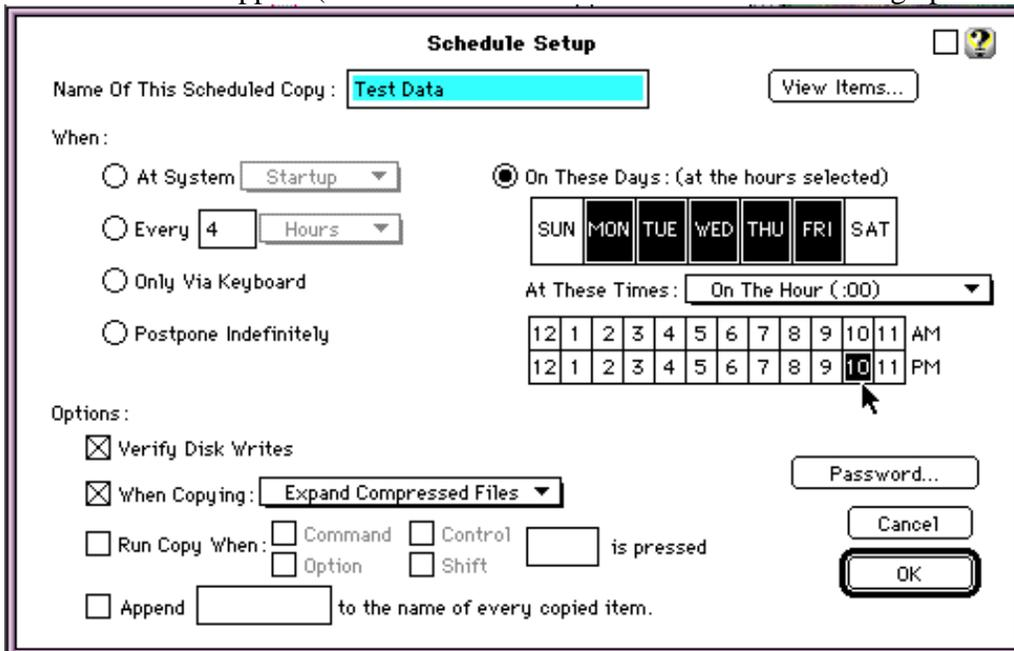

Figure 5
- Click the “**On These Days...**” button. Click on the days and hours to select a time to back-up. In Figure 5, I’ve selected 10PM Monday through Friday.
13. Finally, click on the **Password** button shown on Figure 5. The following dialogue box will show up:
You will need to type in your **CAE FILE SERVER** password so CopyDoubler can automatically log on to the server for you when it backs up. Press **OK**. You will be back to the dialogue box shown in Figure 5 - Press **OK**. You are done!!!
15. Select the “Copy Schedule” you want to change. Clicking on the **Edit** button will bring up the dialogue box in Figure 5 where you can change your backup times and password. Pressing the **Delete** button will get rid of the copy schedule you have selected. Press **Done**.